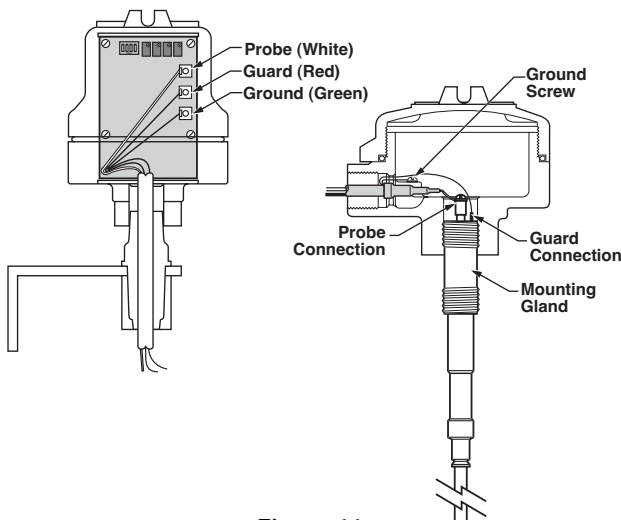

Figure 11
Remote electronic housings are normally shipped from the factory assembled with a mounting bracket. To install the electronic housing, proceed as follows. Refer to Figure 11.
3. Attach the white probe wire to the probe screw on top of the probe. Refer to Figure 11.
4. Attach the green ground wire to the green ground screw in the housing base. Refer to Figure 11.